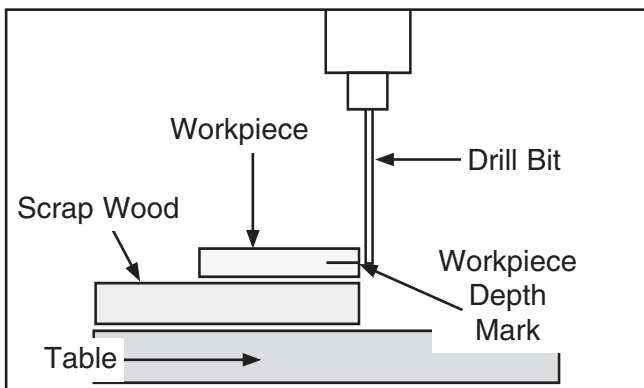

Figure 18. Depth stop mark on workpiece.
3. Mark the side of your workpiece at the intended cutting depth (see **Figure 18**).